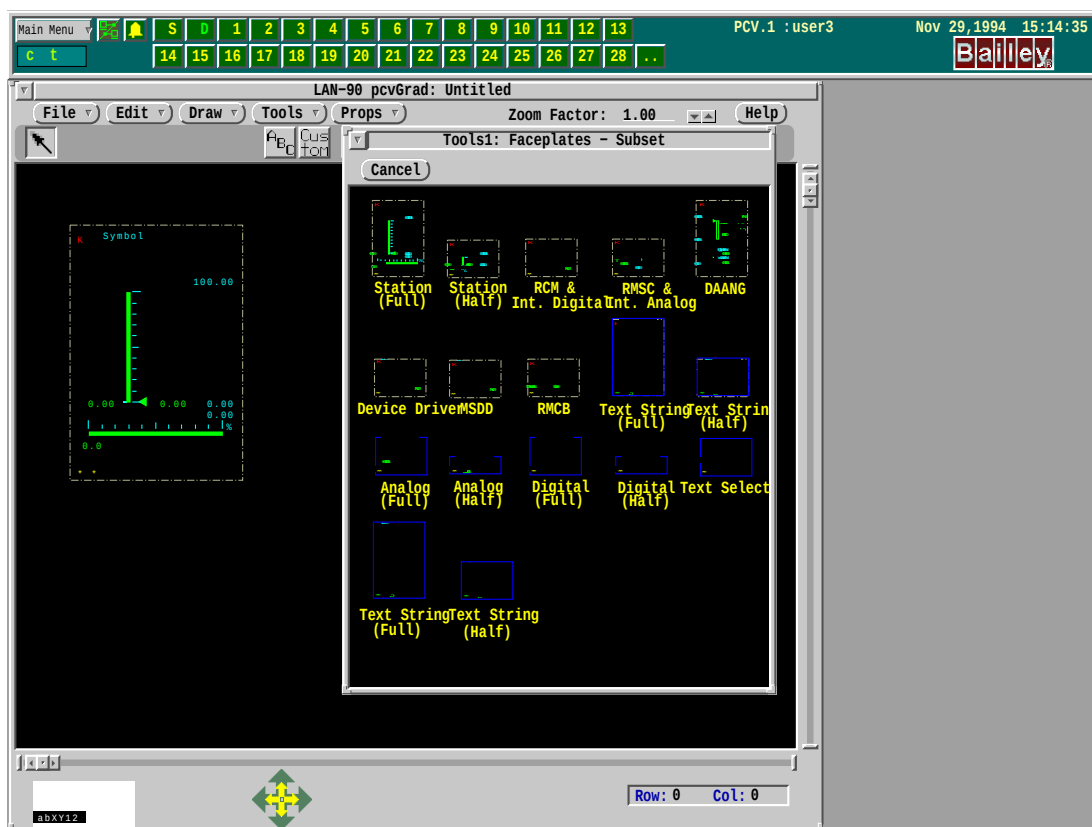
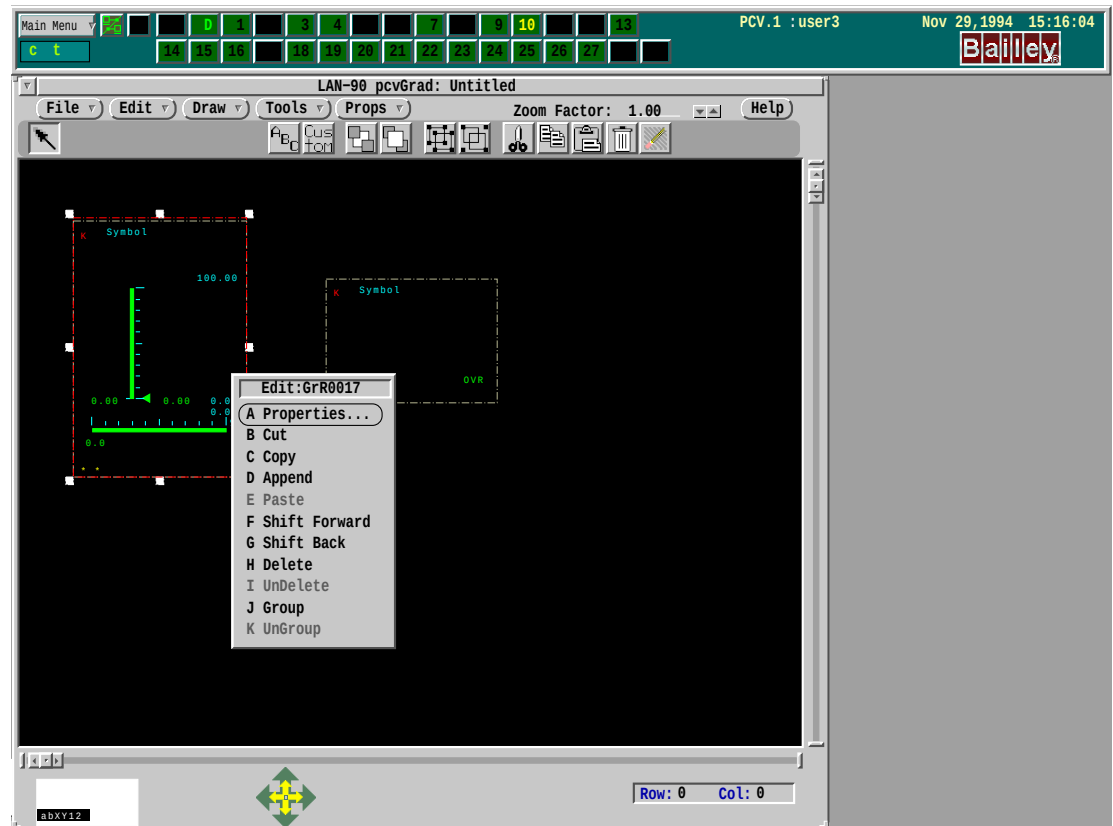

Figure 6-3. Faceplate Palette
Figure 6-4. Object Menu (Select Properties)
(Figure 6-3)
- Drag an RCM faceplate as well (Figure 6-3). Cancel the Tools. Move the RCM into position. Select/click on the station to highlight it in red. Menu click to bring up the Object menu. Select **Properties** (Figure 6-4).